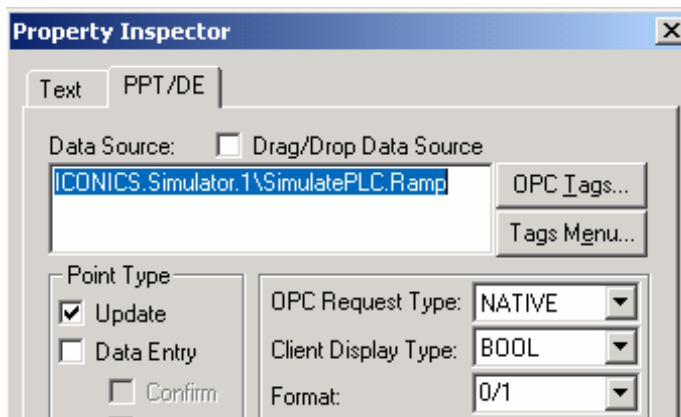

Figure 5.11. Second Process Point's Dynamic Connection
7. To open the **Property Inspector** for an object, simply double-click on the object. You can then make changes to the object's parameters. In this case, open up the **Property Inspector** for the second process point (below the first one), click on the **PPT/DE** tab at the top, click on the **OPC Tags** button and select the **Ramp** OPC tag created in OPC Server Quick Start. The dynamic should appear as shown in **Figure 5.11**. Click **OK** to complete this process point configuration.